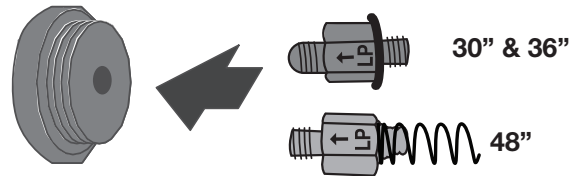

Figure 11
**5** Reverse the retainer pin and snap it back into the regulator cap (see Figure 11).